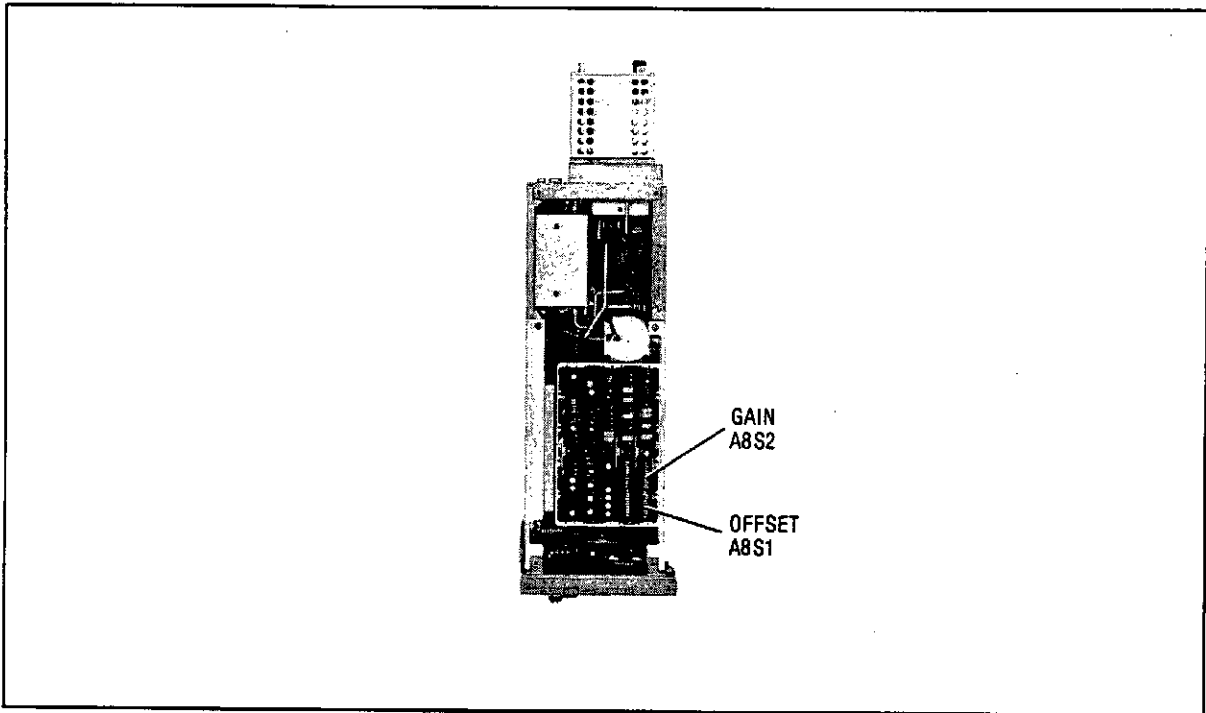
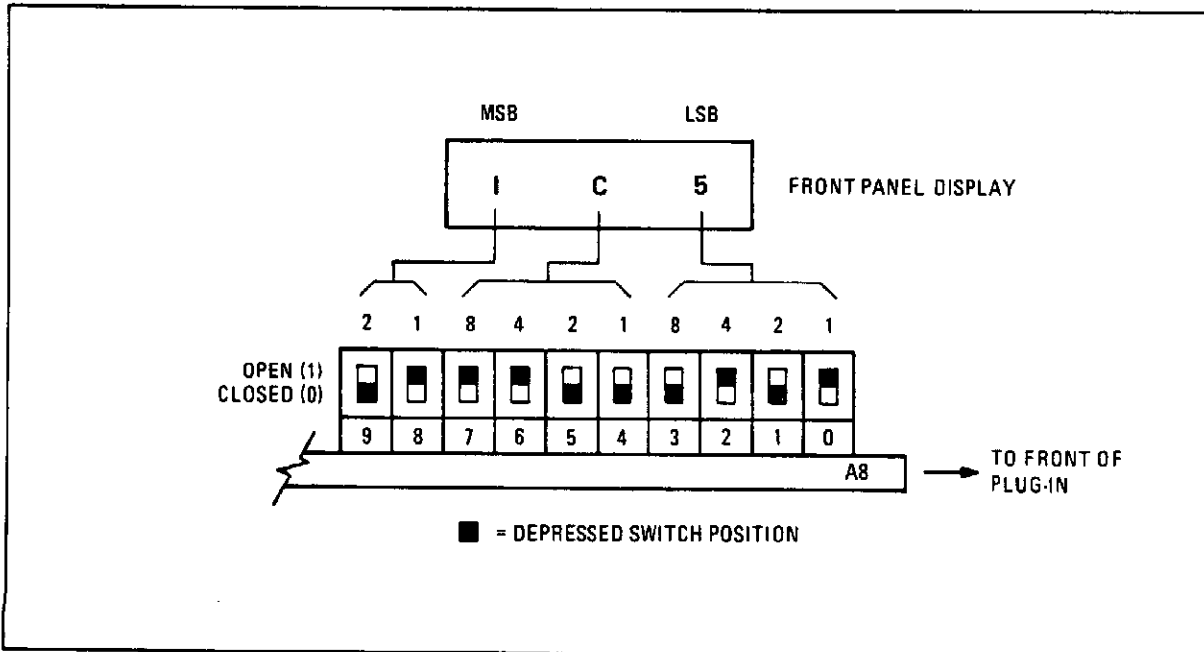

Figure 5-10. Frequency Calibration Switch Locations
Figure 5-11. A8S1 and A8S2 Frequency Calibration Switch Configuration
9. Set switch A8S1 for the hexadecimal value displayed in the Model 83592C POWER display. Refer to Figure 5-10 for the location of the frequency calibration switches. Refer to Figure 5-11 for an illustration of the calibration switch configuration.